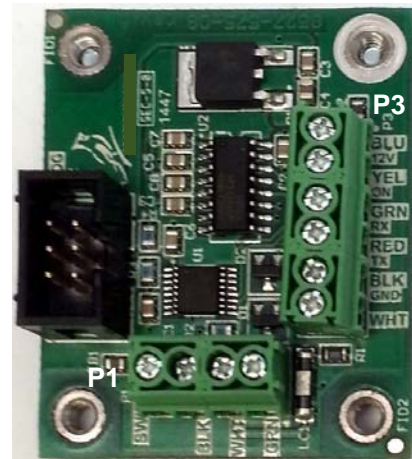

Figure No. 1
2. The switch controller cable wires are to be connected to the (P3) terminal block on the APSFS. Refer to Figure No. 1 for an illustration of the connector layout.
4. The foot switch cable wires are to be connected to the SWITCH (P1) terminal block on the APSFS. Refer to Figure No. 1 for an illustration on the connector layout.